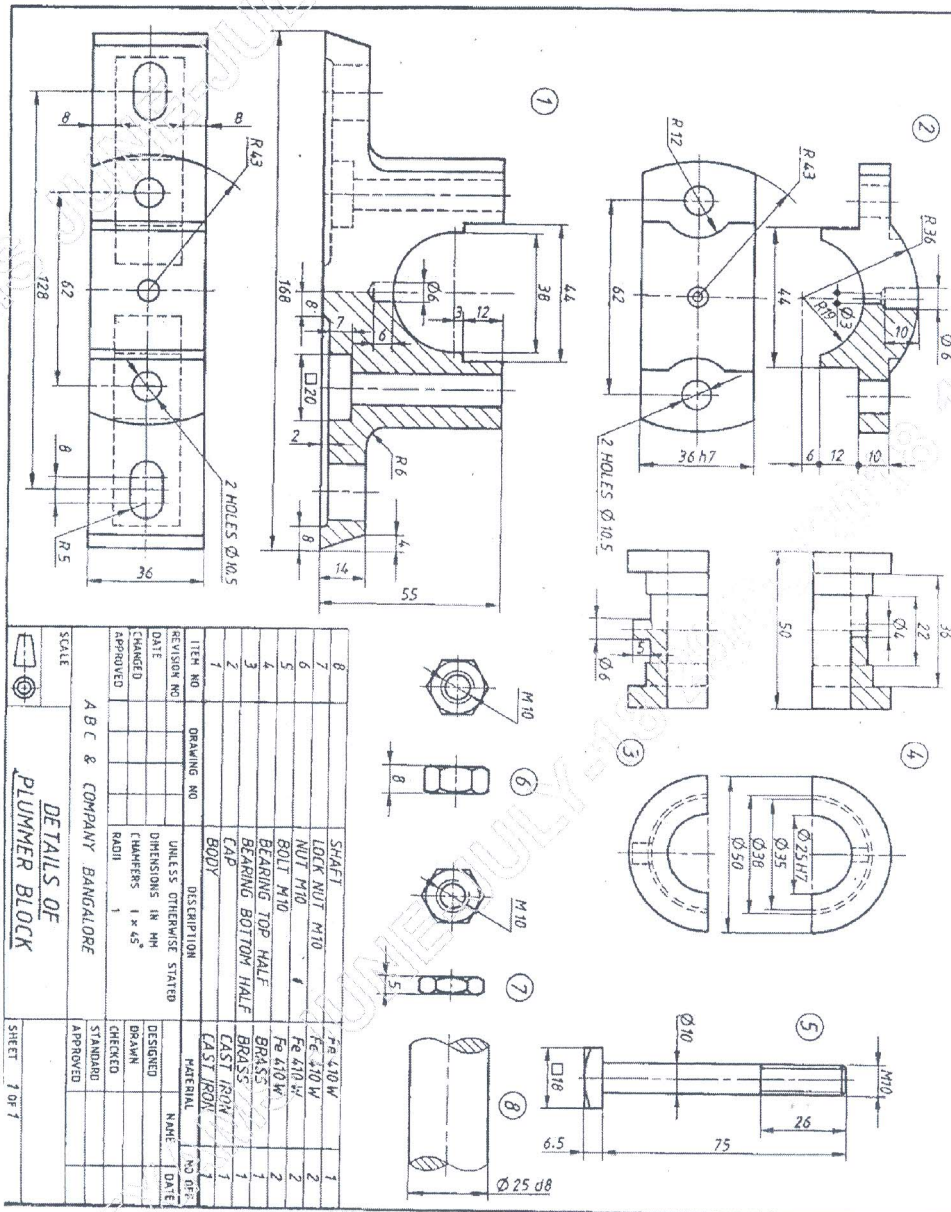

Figure 2:- Plummer Block
5. Figure 2 shows the details of a Plummer block. Assemble the parts of the Plummer block and show the following views.
6. Figure 2 shows the part drawing of a tail stock. Assemble the tail stock and show the following views.